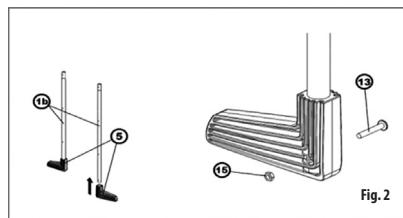

Fig. 2
Put on the lower elbows (5) on the correct ends (according to the holes) of lower tubes of the rear stiles (1b). Secure them in place using appropriate screws (13) and nuts (15) (**Fig. 2**)